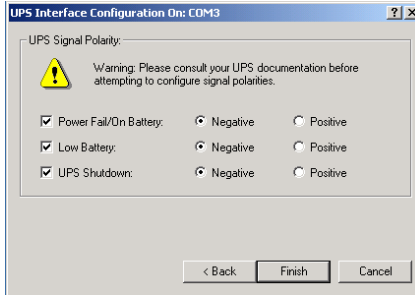

Figure 16 UPS interface configuration
14. Check all 3 boxes, as shown in Figure 16, and choose **Negative** for the 3 voltage settings.